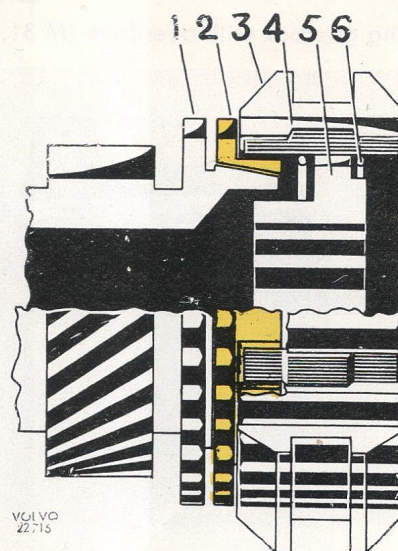
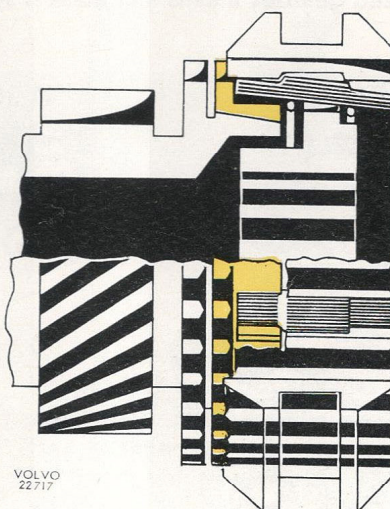
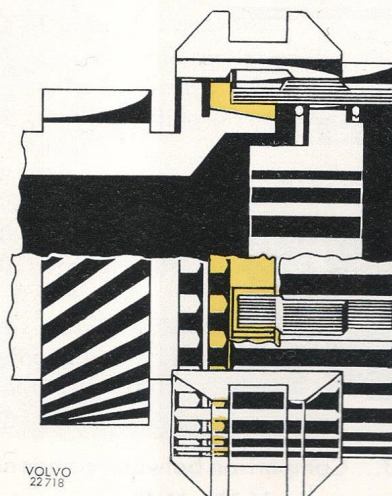

Fig. 11. Neutral position
Fig. 12. Synchronizing
Fig. 13. Gear engaged
The design and function of the synchronizing mechanism are shown in Figs. 11—13. When a gear is engaged, the gear selector fork presses the engaging sleeve (3, Fig. 11) towards the corresponding gear wheel. The engaging springs (4) then press the synchronizing cone (2) against the cone on the gear wheel (1). If the synchronizer and gear wheel are rotating at different speeds, the synchronizing cone will turn in relation to the engaging sleeve. However, the synchronizing cone is prevented from turning more than half a tooth-width by the engaging springs, see Fig. 12. The teeth on the synchronizing cone then have half their width in contact with the teeth on the engaging sleeve and in this way prevent it from engaging. Due to the friction between the synchronizing cone and the cone on the gear wheel, the gear wheel attains the same rotational speed as the synchronizer. When they are both rotating at the same speed, the engaging sleeve is able to turn back the synchronizing cone and the gear engages, see Fig. 13.